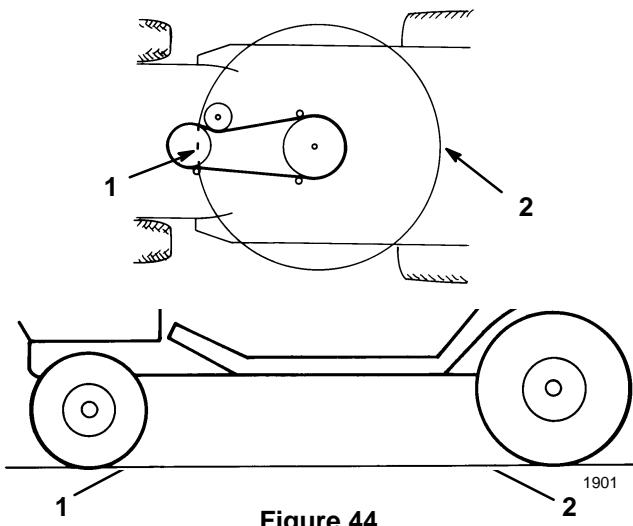

Figure 44
5. Check the front-to-rear blade slope by measuring between the bottom of the mower (front center and rear center) and the flat surface (Fig. 44). If the front is not within a range of $1/8"$ – $3/8"$ (3.5mm–10.5mm) lower than the rear, an adjustment is required; refer to steps 6–10.